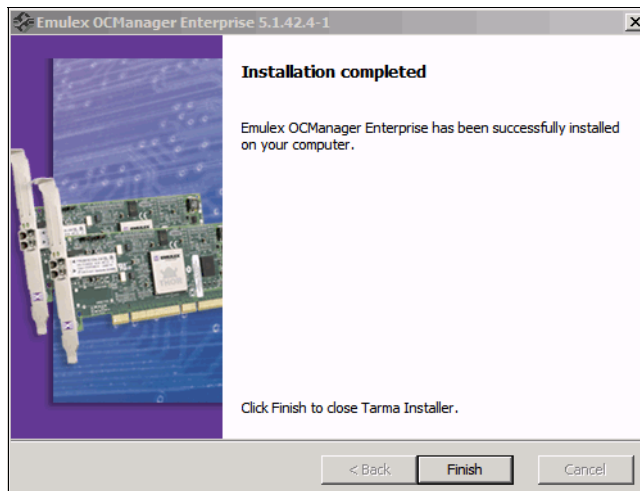

Figure 7-27 Emulex OCManager Installation completion
7. When you see the Installation completed window (Figure 7-27), click **Finish**.